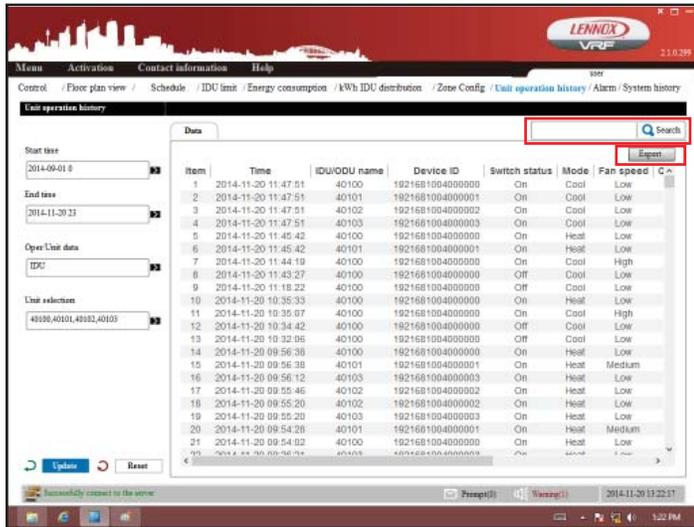

Figure 62. Report Shown
17. The operation report displays. See figure 62.